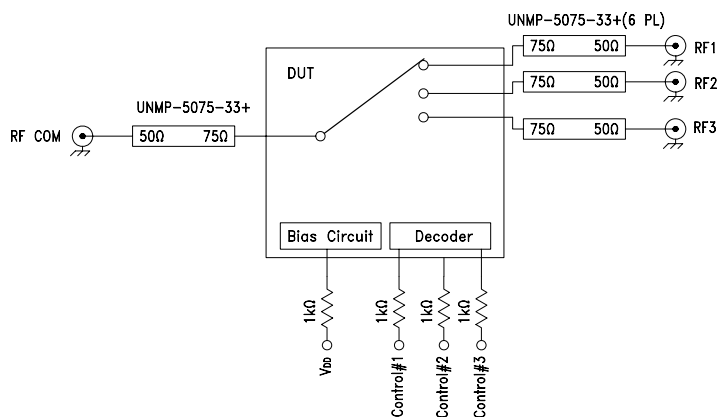

Figure 1: Block Diagram Of Test Circuit Used For Characterization.
- As measured in Mini-Circuit's test board TB-722-3-F+ (see Characterization Test Circuit, Fig.1).